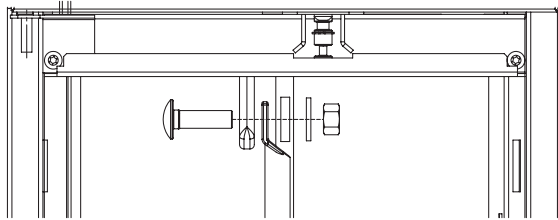

Figure 94. Connecting the cables
- d) Connect the cables to the cable terminals as shown in Figure 94.